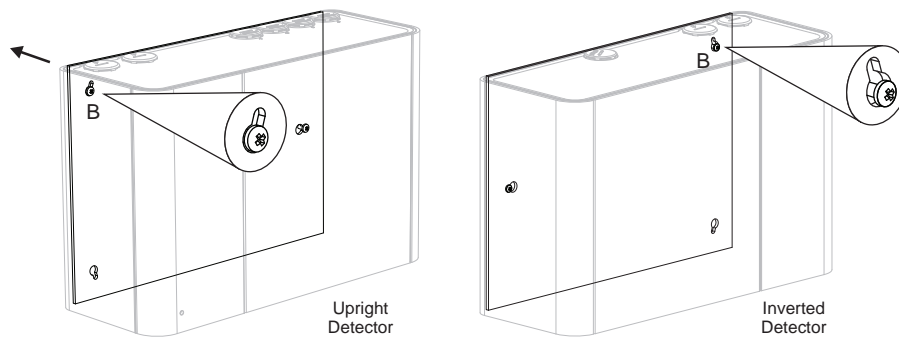

Figure 4-29: Position detector on the second screw
- Rotate the detector clockwise to position the large end of the detector's top-left, or top-right for an inverted detector, keyhole over the head of screw B. Push the detector to the wall (Figure 4-29).